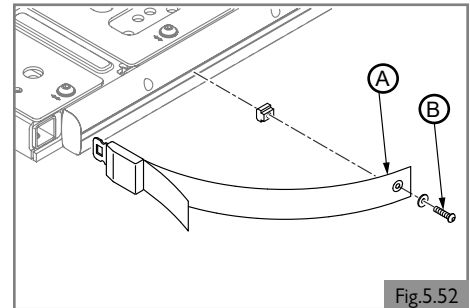

Fig.5.52
1. Attach (A) to the seating frame using provided screws on the left and on the right. (Fig. 5.52)
2. Tighten (B). See section 9 for specified torque values.